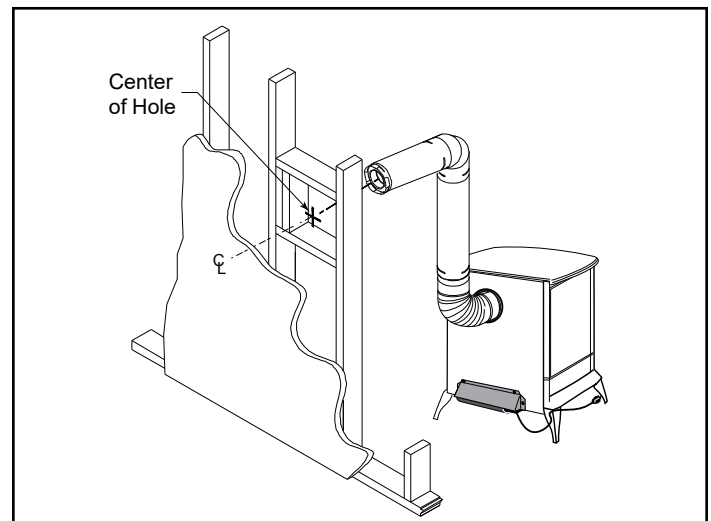

Figure 3.25
Step 3 - With the appliance adaptor and pipe section attached, slide the stove into its correct location. Mark the wall for a square hole that measures 10" x 10" (254 x 254 mm). The centerline of the pipe should line up with the center of the square hole, Figure 3.25. Cut and frame the square hole in the exterior wall where the vent will be terminated. If the wall being penetrated is constructed of noncombustible material only, i.e. masonry block, brick or concrete only, a hole with zero clearance is acceptable.